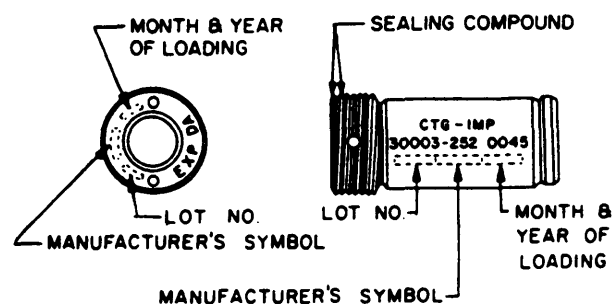

Figure 2-26.-Cartridge markings-head and side.
20. Prior to the cartridge installation, stamp on the cartridge, in the approximate position shown in figure 2-26, the following information: lot number, manufacturer's symbol, month and year of loading. Use black marking ink and make the characters as large as practicable for the available space. The same markings, plus expiration date and the can open date, must also be stamped on the cartridge head, using characters no smaller than 1/16 inch high.
22. Apply sealing compound to the top two threads of the cartridge. (See figure 2-26.)